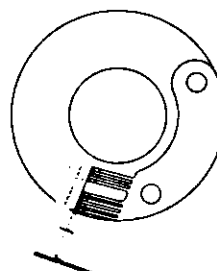

Fig. 47
(C) ASA contact assy (Fig. 47).